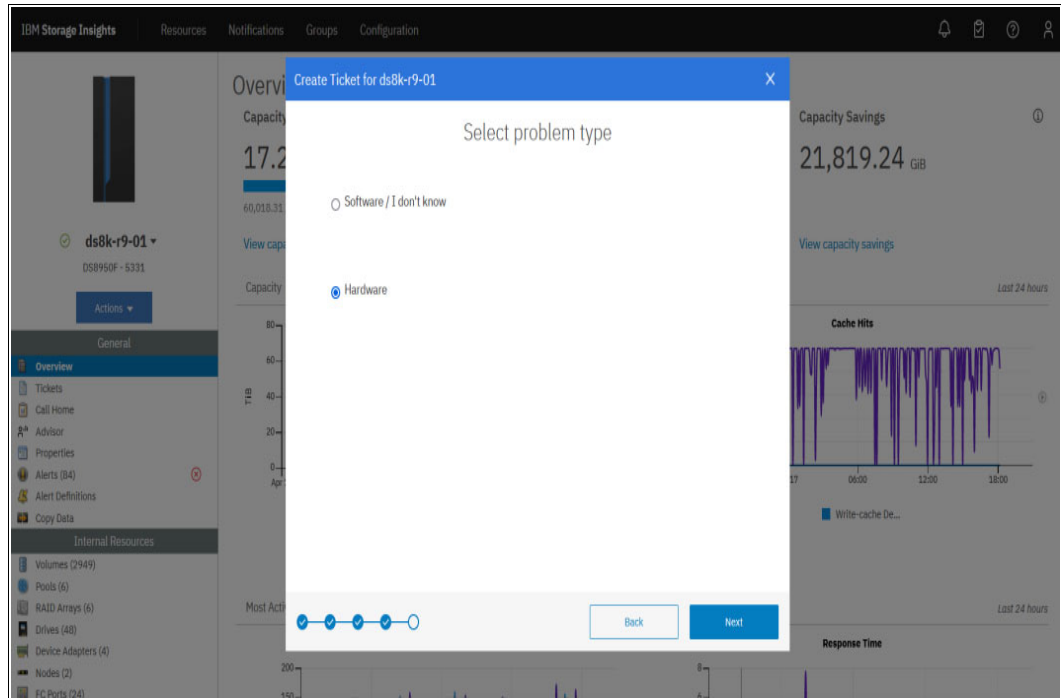

Figure 12-24 IBM Storage Insights: Select problem type
- In the window that is shown in Figure 12-24, select either **Software/I don't know** or **Hardware**, depending on whether you have a hardware problem or a software problem.